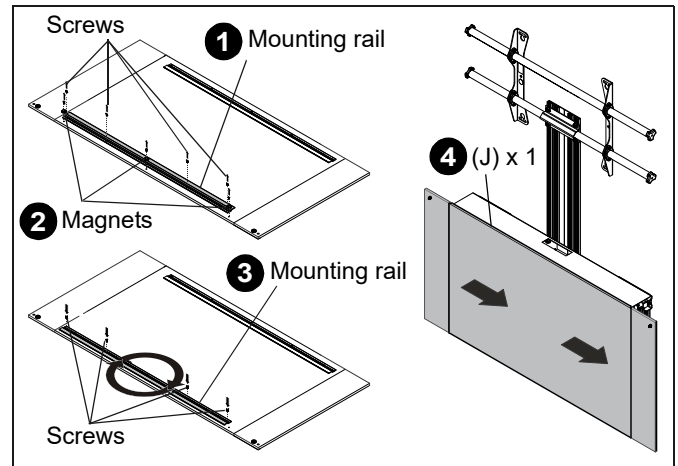

Figure 23
1. Remove the large cover (J) from the storage box (H).
2. Remove the upper three magnets from the large cover (J).
3. Remove the four outside screws securing the upper mounting rail from the large cover (J). Rotate the mounting rail 180 degrees and reinstall to the cover. (See Figure 23)